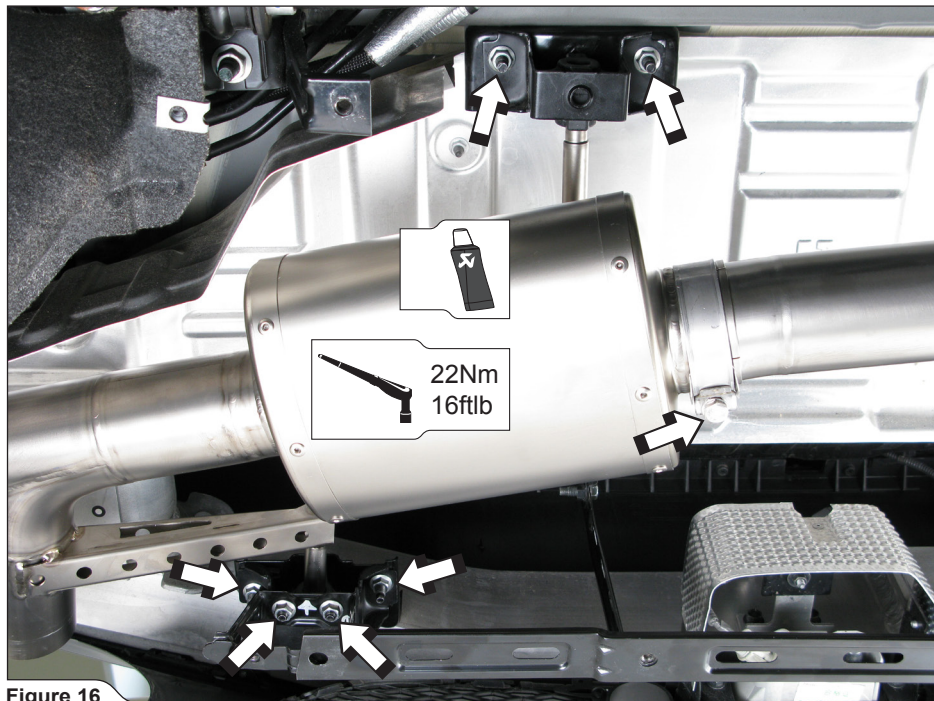

Figure 16
4. **For Slip-On and Evolution:** slide the mufflers onto link pipe, tighten the rubber brackets using stock nuts, tighten the metal clamps and reattach the bumper brackets (**Figure 16**).